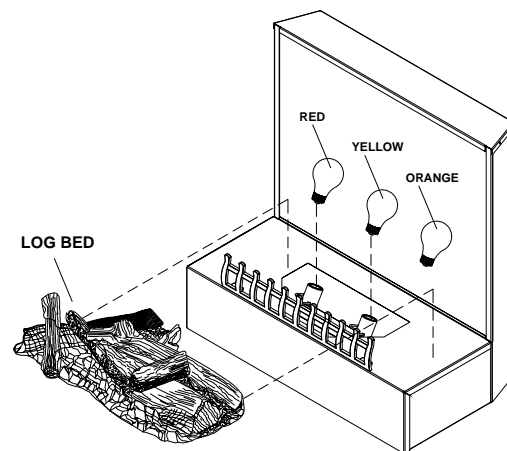

Figure 10 - Hearth Assembly
2. Turn the power on to the light circuit and check that all bulbs are operating. The Red bulb is placed in the left most fixture and the Yellow and Orange follow in that order. See **Figure 10**.